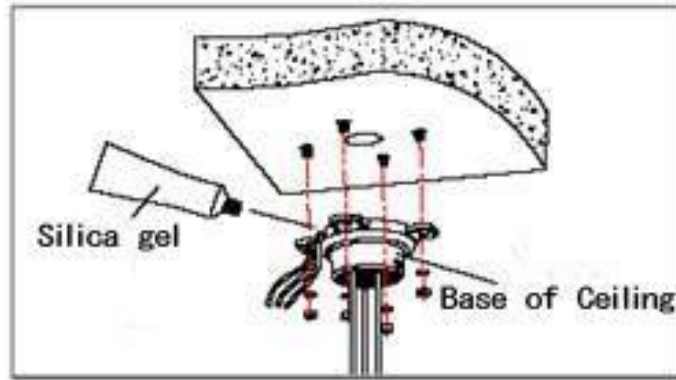

Fig 20
b. As shown in fig 20, at first unscrew the M4 screw at the side of the base of ceiling and split the base of ceiling and boom. Then make the three groups of cables of power, video/control and alarming into the side recessing seal groove of the ceiling connector bottom and through the core hole of the base of ceiling mounted. Fix the base of hang ceiling on the ceiling board.